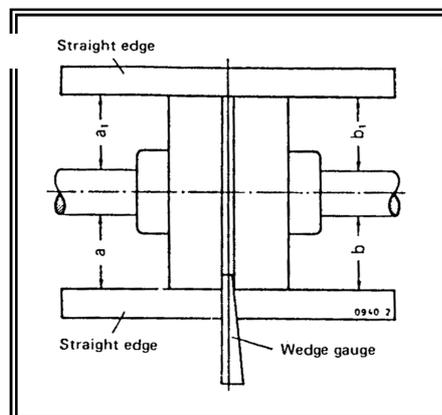

Fig. 2 Aligning a non-spacer type flexible coupling
- (1) For centering of the coupling, put a straightedge on the both coupling halves and insert a wedge gauge in the axial clearance between the coupling halves, as illustrated in Fig. 2, to check run-out of the coupled shafts.